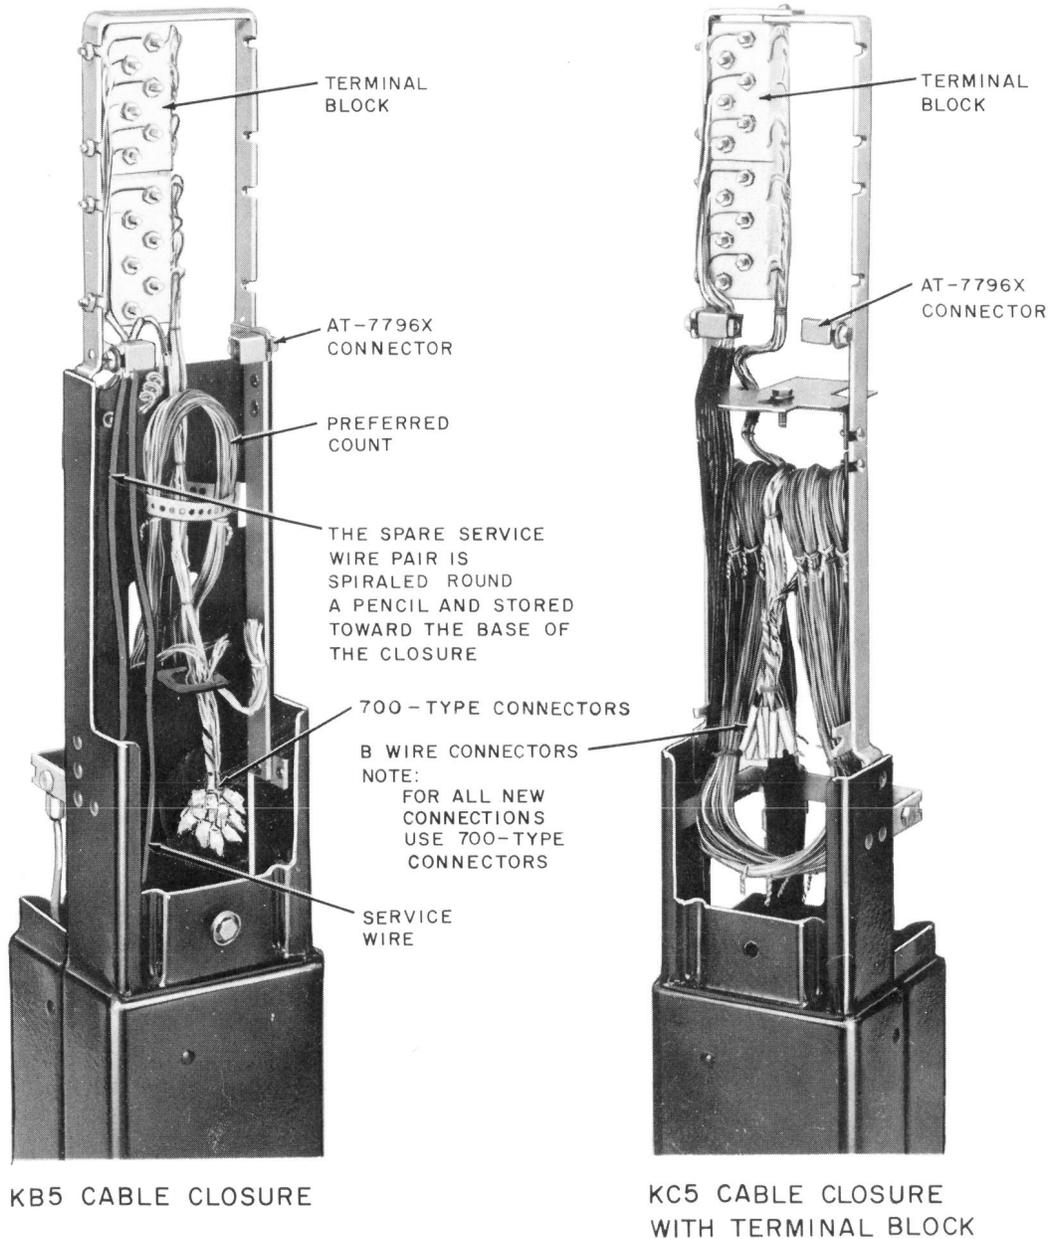

Fig. 25—Service Wire Installed—K-Type Cable Closure (Protected)
7.08 Terminate the service wire as shown in Fig. 25.